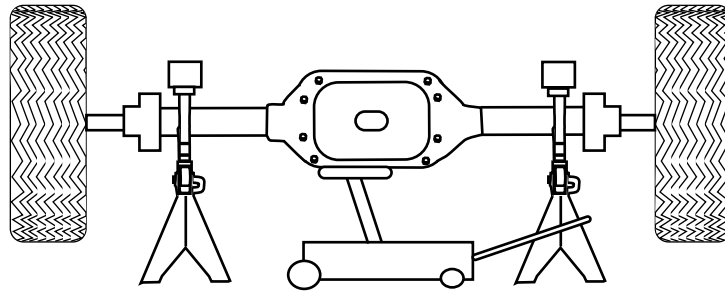

fig. 6
1. Jack up the front or rear of the vehicle or raise on a hoist. Support the frame or axle with safety stands. Lower the axle or raise the body of the vehicle until the suspension is fully extended (Fig. 6). In some cases it may be necessary to unbolt the sway bar.